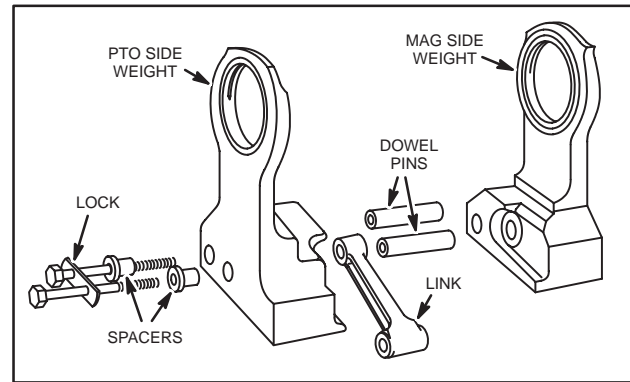

Fig. 190 – DISASSEMBLING COUNTERWEIGHT
- Remove crankshaft from magneto side counterweight, Fig. 190.